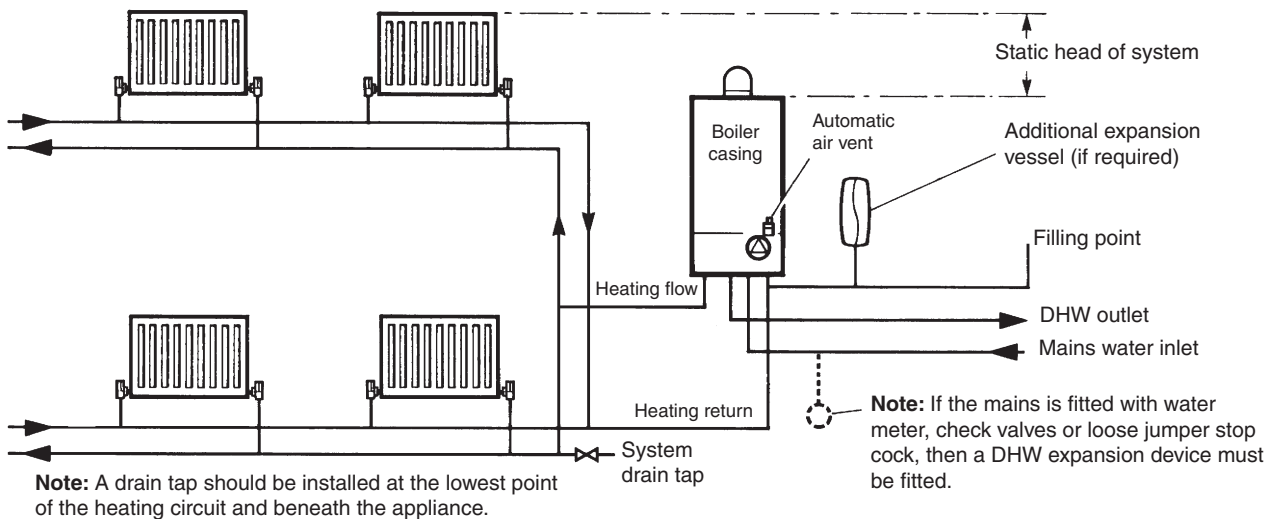

Fig. 6
3.7 CENTRAL HEATING SYSTEM - Fig. 6
System volume - The expansion vessel incorporated into the boiler is suitable for a sealed heating system with a maximum water content of 80 litres (18 gal). Above 80 litres, consideration should be given to fitting an additional expansion vessel fitted in the position shown in Fig. 6. To check correct operation of the expansion vessel(s) the system pressure should not be more than 2.5 bar when the system is at maximum operating temperature (for further guidance refer to BS 7074:1).
The system design pressure (cold) should be set to 1.0 bar. This pressure is equivalent to a static head (see Fig. 6) of 10.2 metres of water.